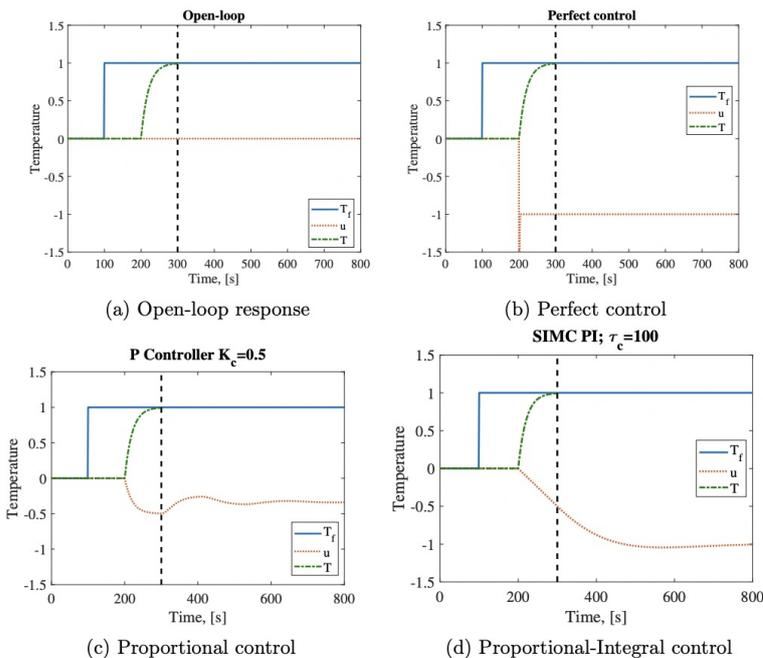

Figure 3: Step response plots
Note: In the following questions "green line" means that you should plot the behavior of the tank temperature (T) by hand by extending the green line in the plots in Figure 3.
In Figure 3, the input u (scaled heat input; red line) and the disturbance T_f (blue line) are plotted for the whole simulation, but the output T (green line) is plotted to 300 s. Please sketch by hand the behavior of output T (green line) for the remaining time.